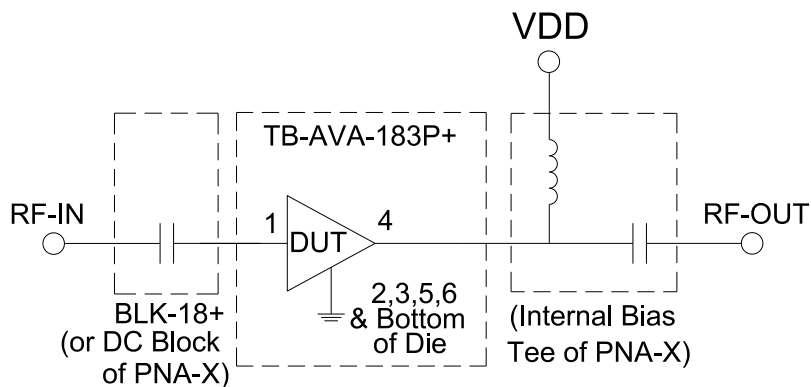

Fig 1. Characterization Test Circuit
1. Die is packaged in 3x3 mm, 12-lead MCLP package & soldered on Mini-Circuits characterization board TB-AVA-183P+. See Characterization Test Circuit (Fig. 1)